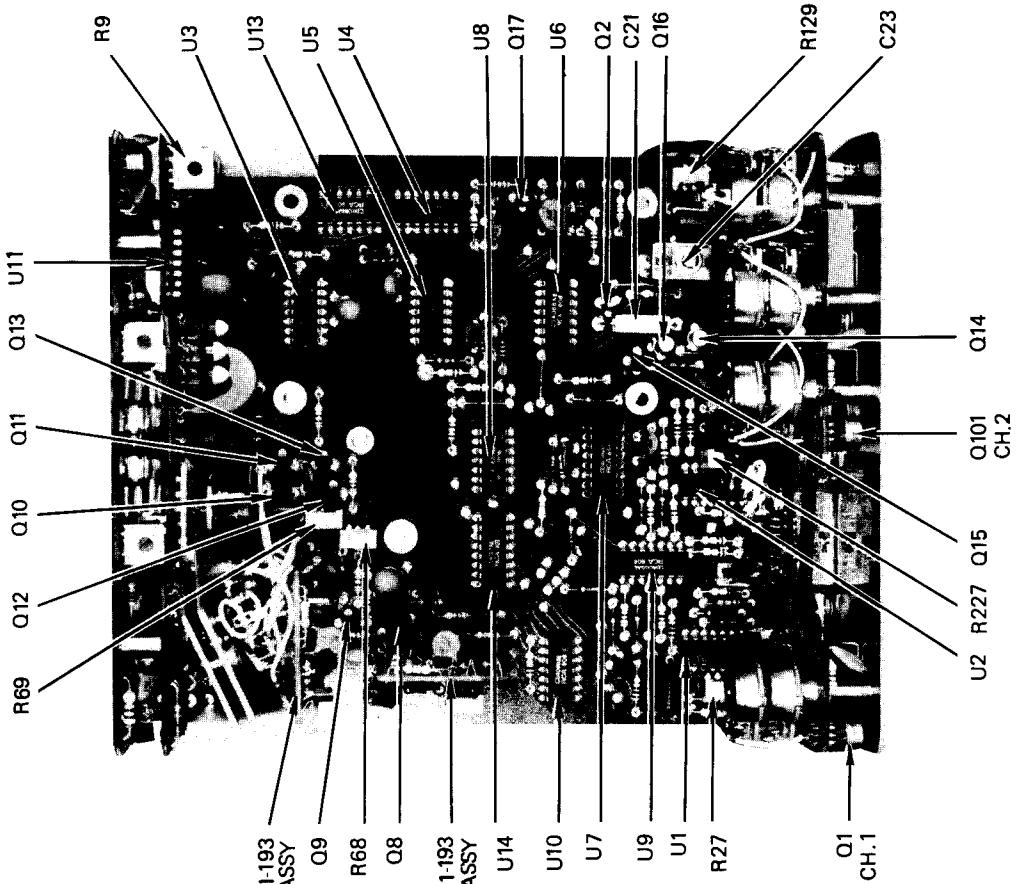

Figure 4-2. Component Location - Main Board
- c. Adjust R68 (figure 4-2) until spot just disappears from view at both left and right sides of screen.
- b. Center trace on screen and adjust R129 (figure 4-2) until calibrator output is exactly 1V p-p.
- a. Using AC vertical input coupling and internal triggered mode, connect calibrator output to CH2 vertical input. Set vertical V/DIV controls to .5 V/DIV. Center trace vertically. Set vernier to CAL (CW).
- b. Adjust R227 (figure 4-2) until trace amplitude is exactly two graticule divisions high.
- a. Use internal trigger mode and AC vertical coupling. Set time/DIV to 5 mS/DIV with time vernier in CAL (CW) position.
- c. Adjust R69 (figure 4-2) and horizontal position control until trace is approximately 1/32 inch longer than five divisions of graticule in horizontal direction.
- d. Adjust R93 (figure 4-2) and horizontal position control for best coincidence of vertical lines of square wave trace with vertical lines of graticule.
- b. Adjust C23 (figure 4-2) and horizontal position control for best coincidence of vertical lines of square wave trace with vertical lines of graticule.
- c. Adjust R9, high voltage power supply potentiometer (figure 4-2), until retrace just appears at top and/or bottom of square wave. Note position of R9.
5-17. With the vertical input grounded, if the trace or spot is visible when the vertical deflection plates (pins 9 & 11) are shorted together and disappears when the short is removed, the vertical amplifier is in a state of DC unbalance. To determine where the problem is measure the differential voltage at the output of the second amplifier (pins 7 & 8 of U1 - figure 4-2). If it can be adjusted to ± 2
VDC with the front-panel vertical position control, then the problem is in the deflection amplifier output stage. If the voltage cannot be adjusted as specified, measure the voltage at the output of the first amplifier (wiper of vertical gain potentiometer, R12 - figure 4-2). If it is within 0.01 VDC of ground, then the problem is in the second amplifier. If it is not as specified, then the problem is in the first amplifier. If the problem is incorrect gain, use signal tracing techniques to locate the problem.
5-21. If a problem exists in one or more positions of the trigger mode switch but not all, then the switch itself or associated networks are at fault. If a problem exists in all positions, then the fault lies with either the source follower (Q2 - figure 4-2), the Schmitt Trigger (U4 - figure 4-2) or slope selector (U12). Check the output of the source follower. If it exhibits approximately unity gain, the problem is in the trigger or slope selector. If the source follower does not have unity gain then it is the problem.
5-23. If there is no horizontal sweep and the time base trigger is not at fault, then the time base generator is at fault. If the sweep works in some settings and not in others then the switching or the associated networks are at fault. If the sweep does not work at all, the constant-current source can be tested by disconnecting the output collector lead (Q14 - figure 4-2) and measuring the current to ground. The gates in the astable multivibrator (U5 - figure 4-2), transmission gate (U6 - figure 4-2) and the flip-flop (U3 - figure 4-2), can be checked by examining their input versus output relationships.